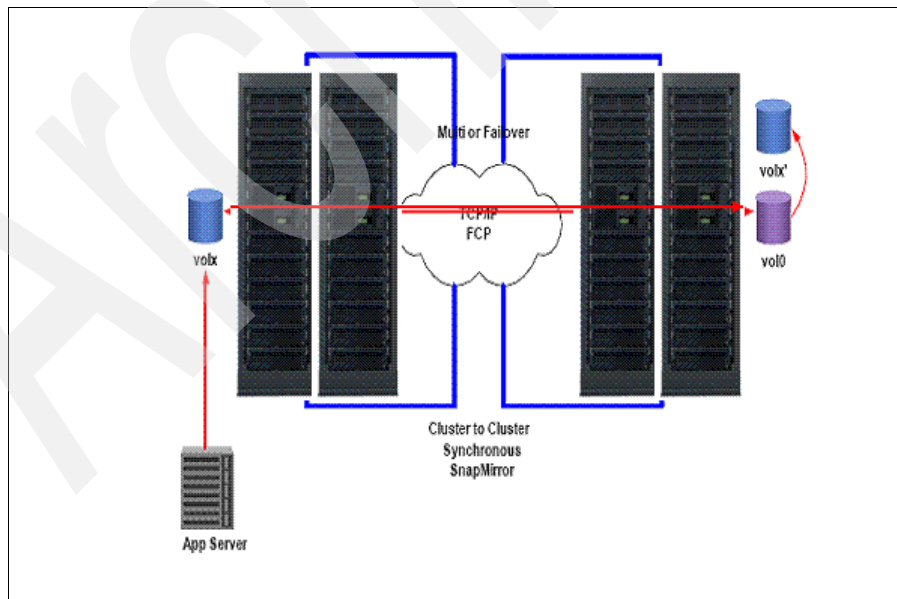

Figure 6-14 SnapMirror Multipath
- ▶ Multiplexing mode, as illustrated in Figure 6-14, is when both paths are used simultaneously and load-balancing transfers across the two. When a failure occurs, the load from both transfers moves to the remaining path.